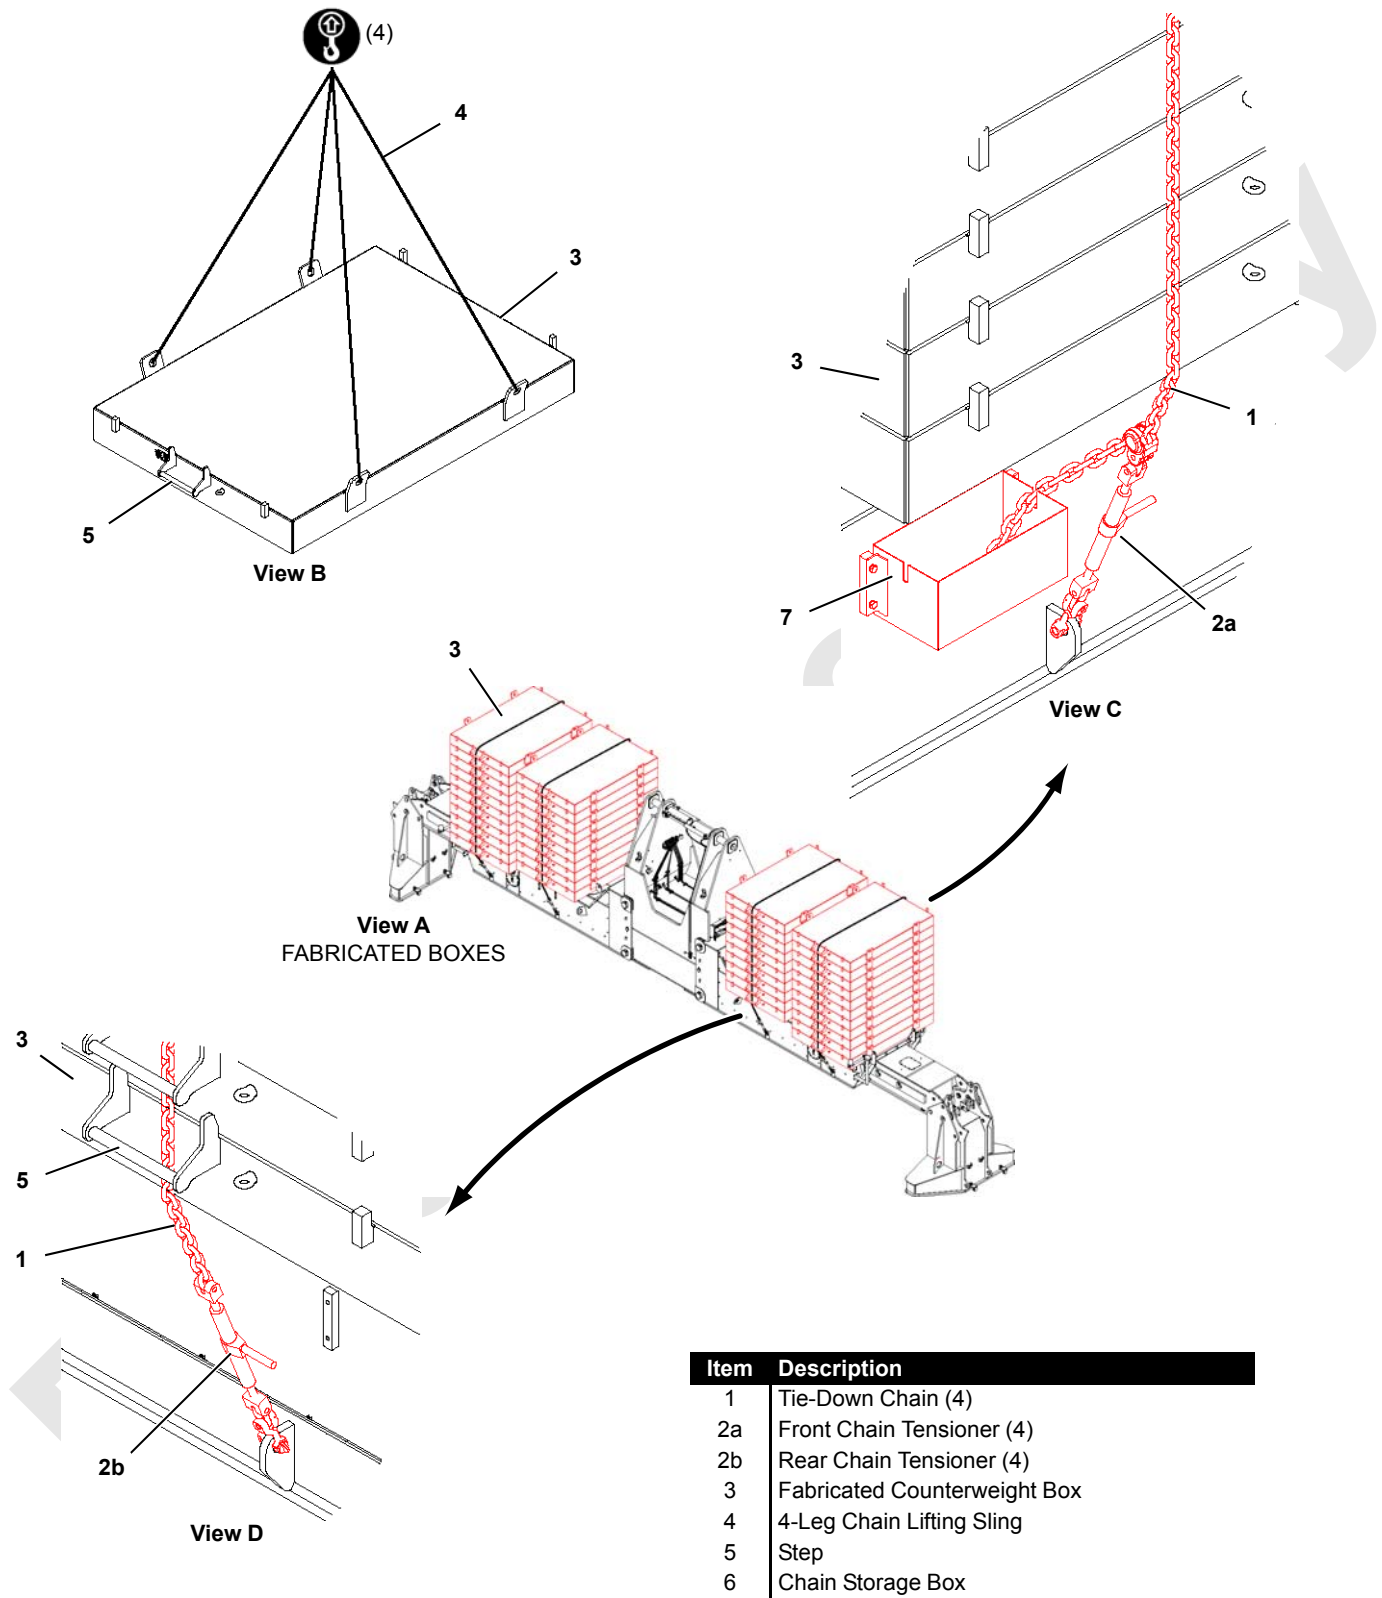

FIGURE 4-113
- Do not lift more than one fabricated box at a time (Figure 4-113, View C). Lifting lugs may break allowing box(es) to fall.
- Make sure step (5, Figure 4-113, View B) faces to rear.
See Figure 4-113 for the following steps.